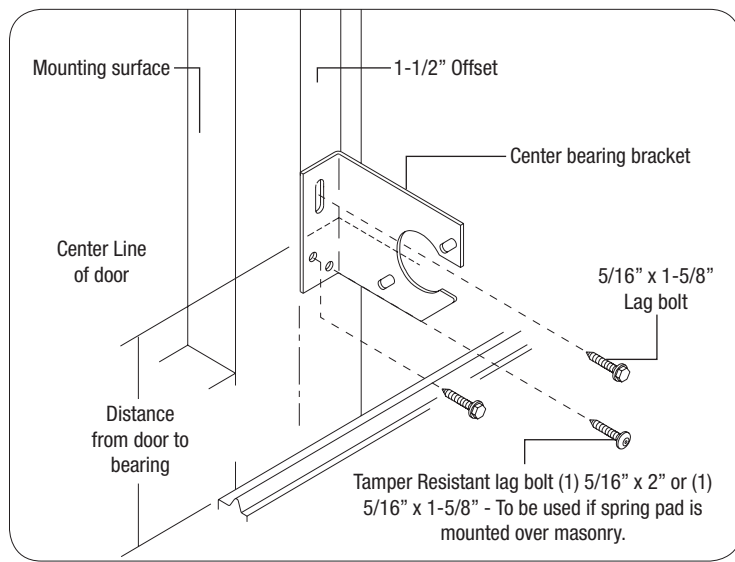

FIG. 7.1
Locate the center of the door and mark a vertical pencil line on the mounting surface. Then measure the distance from the top of the door to the center of the bearing on the end bearing fixture. Mark a horizontal line on the mounting surface, the measured distance up from the top of the door. Offset the center bearing bracket 1-1/2" off center on the spring mounting surface and center the bearing hole in the bracket over the horizontal line so that the torsion shaft will lay level through the brackets when installed. Attach the bracket to the mounting surface using (2) 5/16" x 2" lag bolts and (1) tamper resistant lag screw, as shown in **FIG. 7.1**.